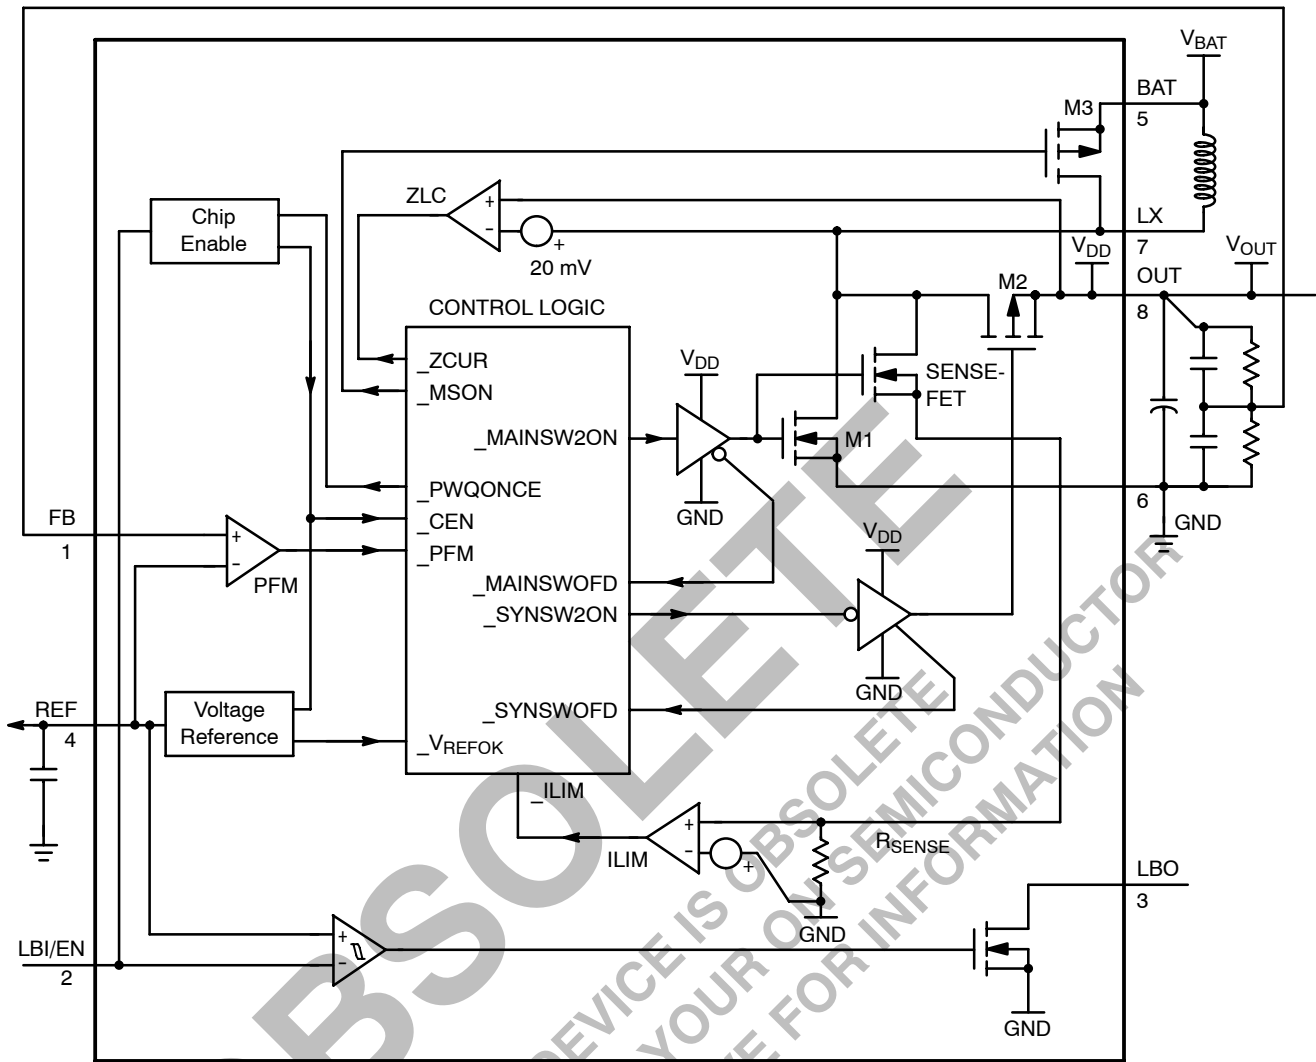

Figure 2. Simplified Functional Diagram
From the simplified Functional Diagram (Figure 2), the output voltage is divided down and fed back to pin 1 (FB). This voltage goes to the non-inverting input of the PFM comparator whereas the comparator's inverting input is connected to REF. A switching cycle is initiated by the falling edge of the comparator, at the moment, the main switch (M1) is turned ON. After the maximum ON-time (typical 1.4  $\mu\text{s}$ ) elapses or the current limit is reached, M1 is turned OFF, and the synchronous switch (M2) is turned ON. The M1 OFF time is not less than the minimum OFF-time (typical 0.31  $\mu\text{s}$ ), this is to ensure energy transfer from the inductor to the output capacitor. If the regulator is operating at Continuous Conduction Mode (CCM), M2 is turned OFF just before M1 is supposed to be ON again. If the regulator is operating at Discontinuous Conduction Mode (DCM), which means the coil current will decrease to zero before the next cycle, M1 is turned OFF as the coil current is almost reaching zero. The comparator (ZLC) with fixed offset is dedicated to sense the voltage drop across M2 as it is conducting, when the voltage drop is below the offset, the ZLC comparator output goes HIGH, and M2 is turned OFF. Negative feedback of closed loop operation regulates voltage at pin 1 (FB) equal to the internal voltage reference (1.190 V).
From Figure 2, SENSEFET is applied to sample the coil current as M1 is ON. With that sample current flowing through a sense resistor, sense-voltage is developed. Threshold detector (ILIM) detects whether the sense-voltage is higher than preset level. If it happens, detector output signifies the CONTROL LOGIC to switch OFF M1, and M1 can only be switched ON as next cycle starts after the minimum OFF-time (typical 0.31  $\mu\text{s}$ ). With properly sizing of SENSEFET and sense resistor, the peak coil current limit is set at 1.0 A typically.